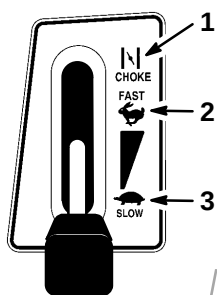

Figure 8
5. Move the throttle lever to “CHOKE” (Fig. 8).
7. After the engine starts, slowly move the throttle lever to “FAST” (Fig. 8). If the engine stalls or hesitates, move the throttle lever back to “CHOKE” for a few seconds. Then move the throttle lever to “FAST.” Repeat this as required.
1. Move the throttle lever to "SLOW" (Fig. 8).